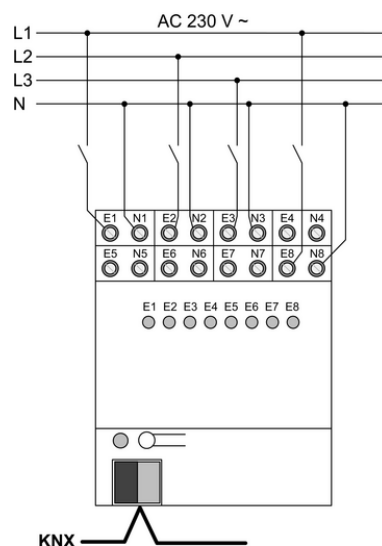

Figure 3: Connection example for 230 V binary inputs
- Connect device as shown in the connection example (figure 3). Connect reference potential **N** separately for each input.